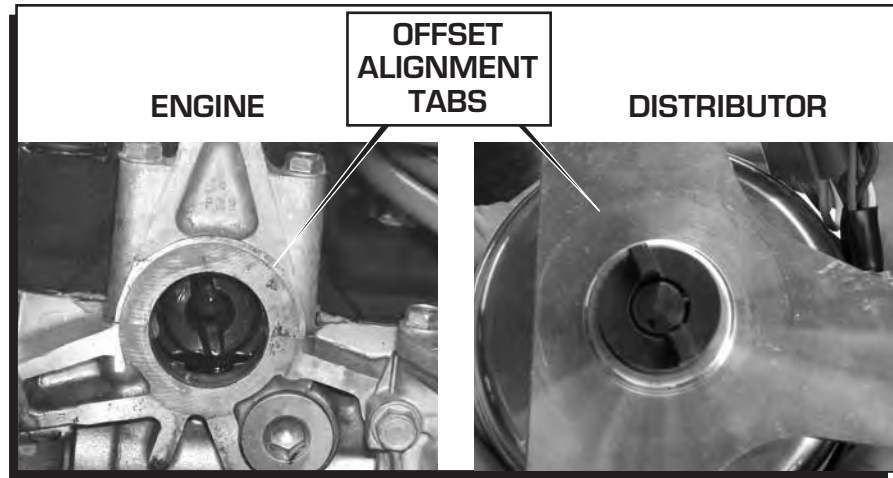

Figure 2 Aligning the Distributor and Camshaft.
2. Note the distributor drive. It has two offset tabs that allow the distributor to be installed only in the correct position (Figure 2). Line up these tabs with those of the camshaft and install the distributor into the engine.